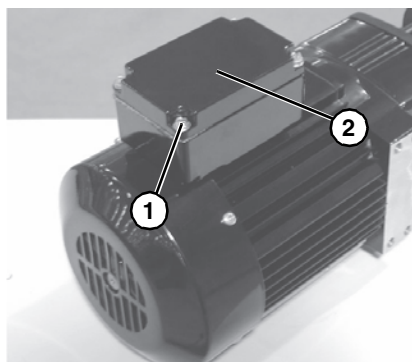

Figure 7
1. Loosen terminal box screws (**Figure 7, item 1**) and remove cover (**Figure 7, item 2**).